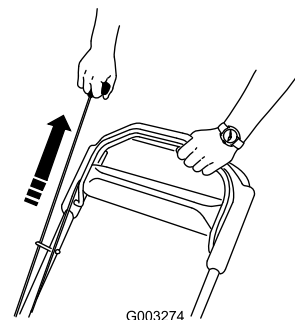

Figure 14
3. Pull the recoil start handle (Figure 14).